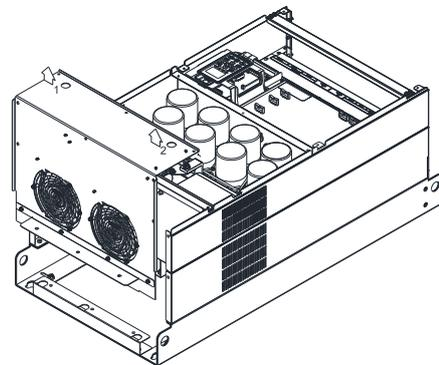

Figure 4
4. Loosen screw 1–3 and remove the protective ring (as 5. Lift the fan by putting your finger through the protective holes, as indicates in 1 and 2 on the figure 4.